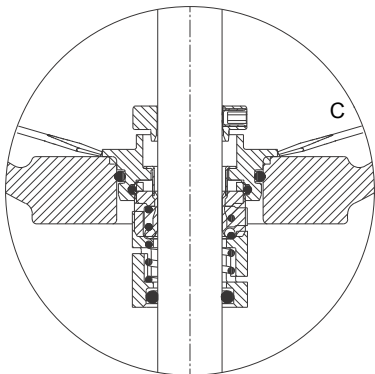

Fig. 1 Removing shaft seal
5. Slacken nut (pos. 117a) and remove air escape pipe (pos. 117) and air vent (pos. 118).
6. Remove screws (pos. 58a) and retainer (pos. 58).
8. Slacken the socket screws (pos. 113) of the upper shaft seal (pos. 105a).
9. Press shaft seal (pos. 105a) out of the secondary pump head (pos. 2) using two slot screwdrivers, and pull it off the shaft. See fig. 1.